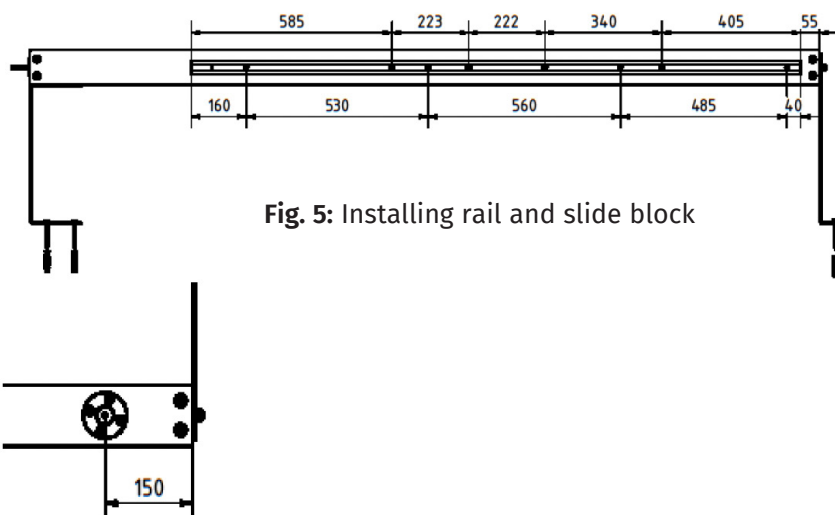

Fig. 5: Installing rail and slide block
Now mount the rails (17). Hold the rail first against the side facing the tiltable element; the offset of the rail from the elements' upper edge is 55 mm. Ensure that the closed end of the rail points downward. Mark the threaded inserts (5) drillings as shown in Fig. 5. Drill 4 holes at $\varnothing 11$ and install the inserts. Attach the rails with Spax screws 6x35 (37). The large holes in the rails must align with the threaded inserts. Next, connect the middle, tiltable elements with the 4 connecting angles (32) and fit the slide blocks (12) on the upper right and left outsides. Use Spax screws $\varnothing 5 \times 30$ (38) for this.